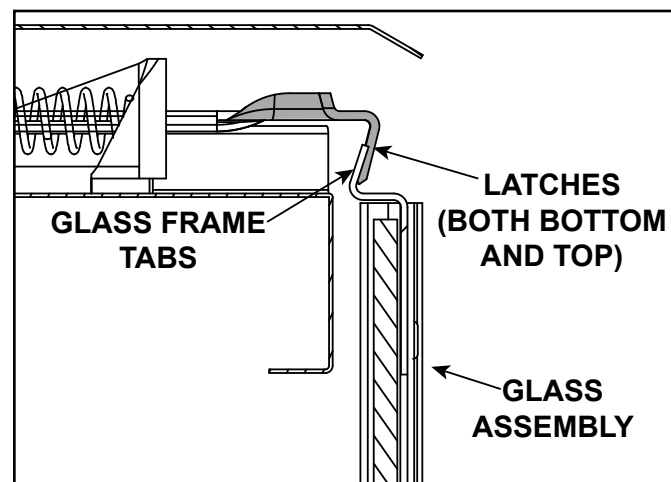

Figure 11.29 Fixed Glass Assembly
- Pull the four glass assembly latches away from the tabs on the glass frame. Remove glass assembly from the appliance. See Figure 11.29.